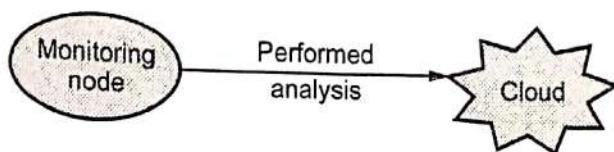

Fig. 1.6.2 Level 2
- In level 2, single node performs sensing and local analysis. Fig. 1.6.2 shows block diagram.